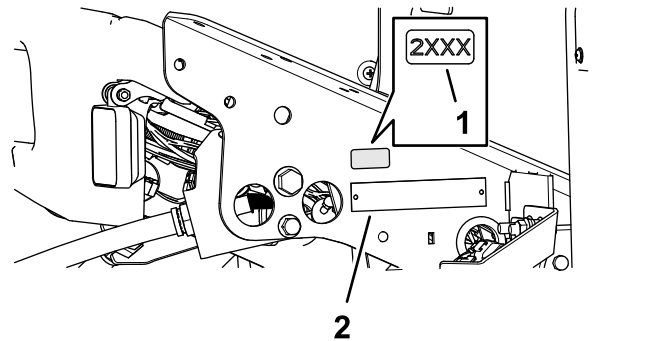

Figure 6
1. Use rubbing alcohol and a clean rag to clean the floor bracket area next to the serial plate, and allow the bracket to dry (Figure 6).